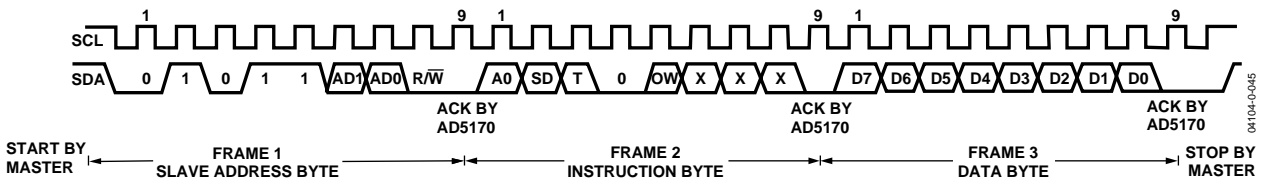
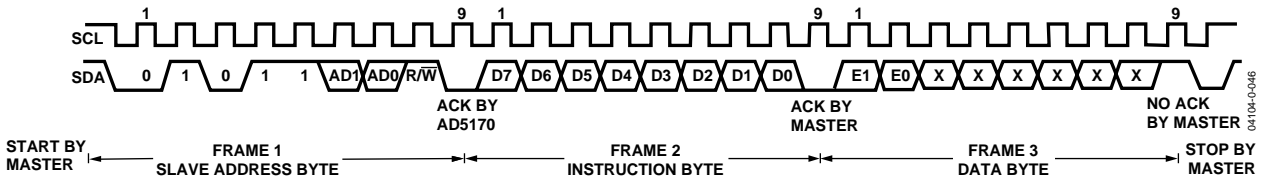

Figure 45. Writing to the RDAC Register
Figure 46. Reading Data from the RDAC Register
1. The master initiates data transfer by establishing a START condition, which is when a high-to-low transition on the SDA line occurs while SCL is high (see Figure 45). The following byte is the slave address byte, which consists of the slave address followed by an R/W bit (this bit determines whether data is read from or written to the slave device). AD0 and AD1 are configurable address bits which allow up to four devices on one bus (see Table 7).
The remainder of the bits in the instruction byte are don't cares (see Figure 45).
3. In the read mode, the data byte follows immediately after the acknowledgment of the slave address byte. Data is transmitted over the serial bus in sequences of nine clock pulses (a slight difference from the write mode, with eight data bits followed by an acknowledge bit). Similarly, the transitions on the SDA line must occur during the low period of SCL and remain stable during the high period of SCL (see Figure 46).
Following the data byte, the validation byte contains two validation bits, E0 and E1. These bits signify the status of the one-time programming (see Figure 46).
4. After all data bits have been read or written, a STOP condition is established by the master. A STOP condition is defined as a low-to-high transition on the SDA line while SCL is high. In write mode, the master pulls the SDA line high during the 10th clock pulse to establish a STOP condition (see Figure 45). In read mode, the master issues a No Acknowledge for the 9th clock pulse (i.e., the SDA line remains high). The master then brings the SDA line low before the 10th clock pulse, which goes high to establish a STOP condition (see Figure 46).